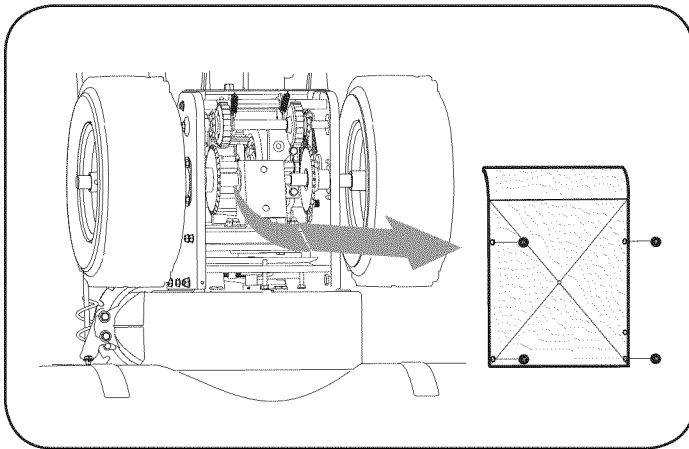

Figure 27
2. Remove the frame cover from the underside of the snow thrower by removing the self-tapping screws which secure it. Refer to Figure 27.
1. With the snow thrower tipped forward (be certain to run the fuel tank dry before tipping the unit forward), remove the frame cover underneath the snow thrower by removing the self-tapping screws. See Fig. 27.